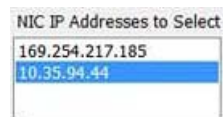

FIG. 73 BSS Configuration Wizard dialog - NIC IP Addresses to Select option
- If multiple PC Network Adapters (NICs) are detected on your PC, use the *NIC IP Addresses to Select* option to select which NIC to use when scanning for HiQnet devices (FIG. 73). If your PC only uses one NIC, then this option is not displayed.